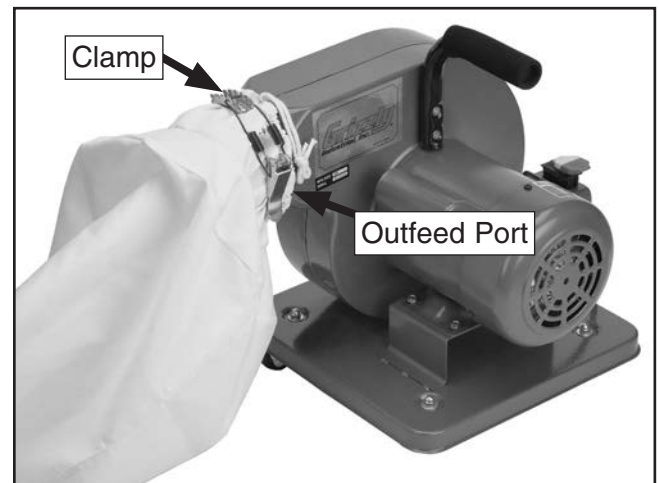

Figure 10. Attaching the collection bag.
4. Fit the collection bag over the outfeed port, and secure it with the provided clamp, as shown in **Figure 10**.